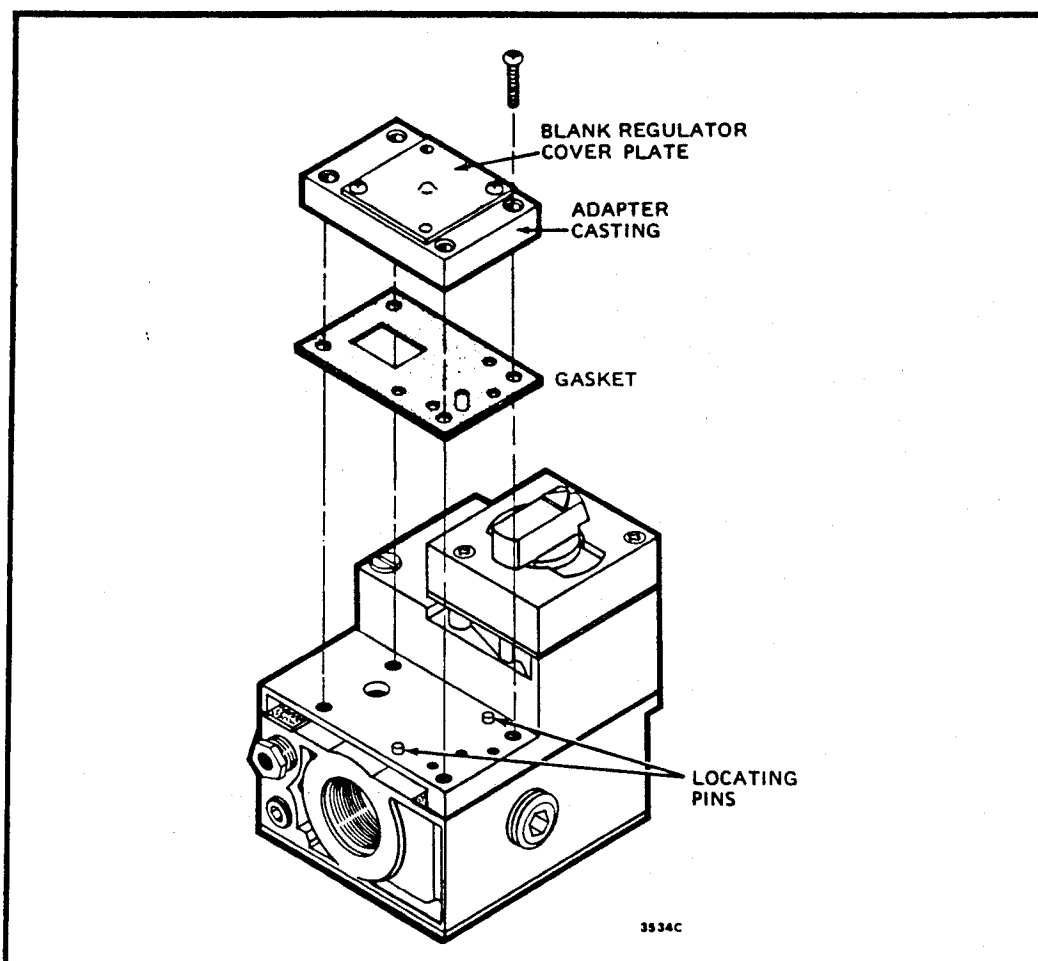

Fig. 6—Remove the adapter casting and gasket from the gas control manifold before installing the operator.
1. Remove the adapter casting and its gasket from the manifold body, Fig. 6. Check to make certain that the gas ports are clear and the gasket seating surfaces are clean.